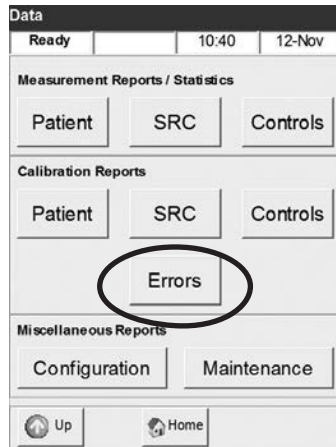

Fig. 7-52 Select Errors
- To print an error log, select **<Calibration Reports -> Errors>** in the **<Data>** screen (Fig. 7-52).